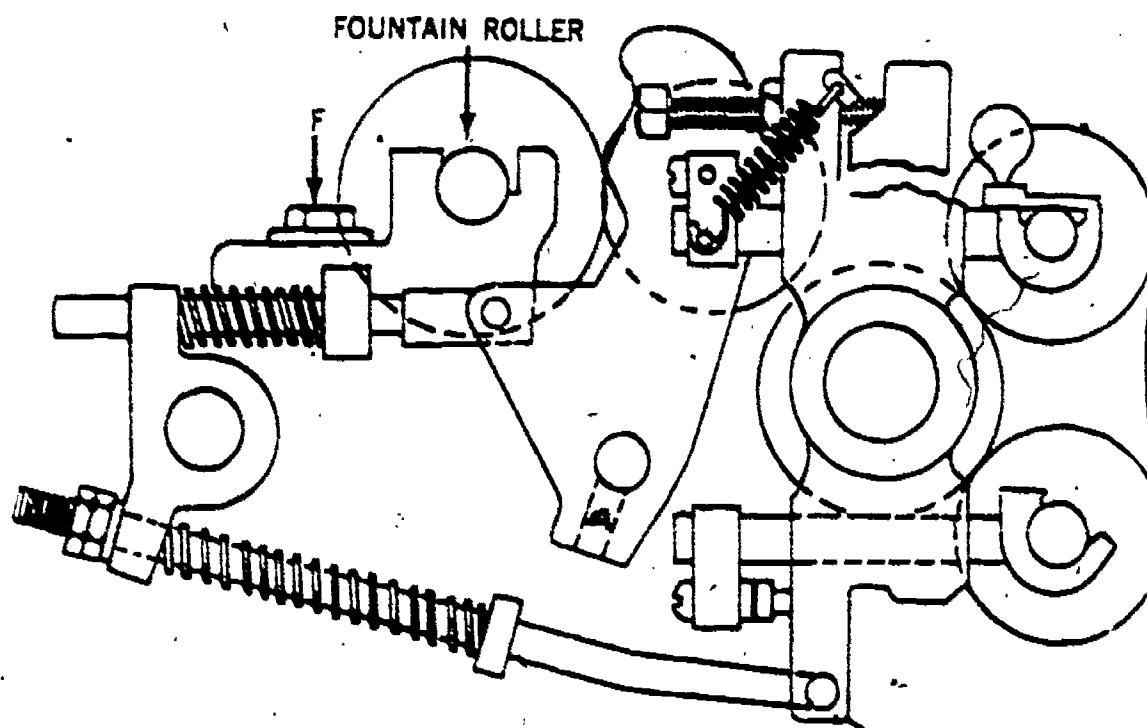

Figure 8-39. Setting and adjusting the fountain roller.
(3) *Setting fountain roller.* The next roller to be adjusted is the fountain roller. Turn the press until the ductor roller activating mechanism is on the high point of its activating cam (ductor roller against the fountain roller when the water-on lever is "on"). Then set the fountain roller to properly contact the ductor roller. The paper feeler strips may be positioned easily by raising the water-on lever, inserting the strips and then dropping the water-on lever to its original "on" position. Make the adjustment by loosening the hexagonal bolts on the fountain roller brackets, F (fig. 8-39), moving the brackets by hand until the fountain roller is parallel to the ductor roller, and then retightening the bolts. The bracket on the gear side of the fountain roller can be moved very little because of the binding action of the fountain roller driving gear. Thus, the only practical adjustment for the fountain roller is the bracket on the